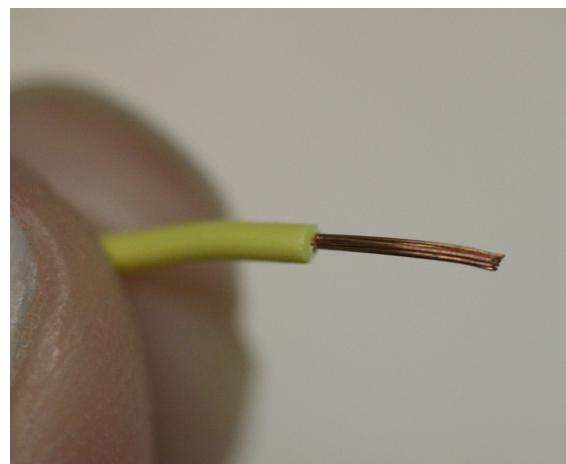

Figure 3-4 Stripped jumper wire
1. Take your two longest jumper wires. If your jumper wires have a thicker, knobby end, clip it off with your wire cutters. Then strip the rubber insulation off one end of each wire, as shown in Figure 3-4. Make sure not to cut through the metal wires. You simply want to cut away the rubber to expose the wire underneath.